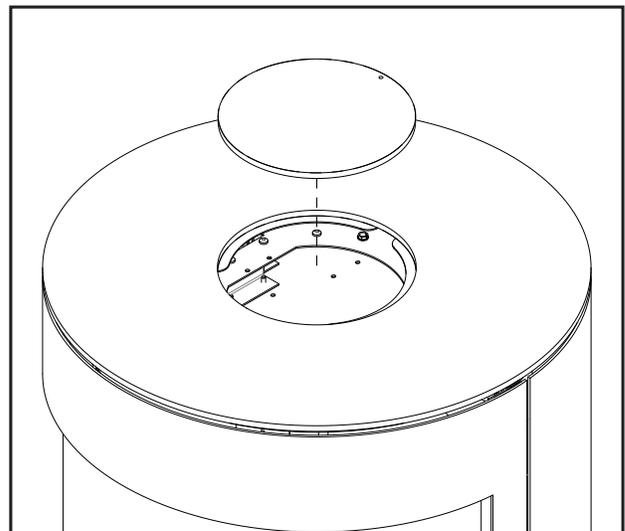

Figure 69: Top Plate Blank
14. Place the top plate blank (included with the unit) into the top plate (see Figure 69).